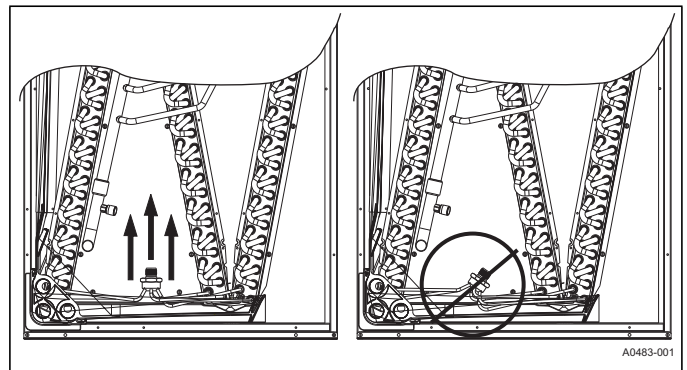

FIGURE 14: Recommended Distributor Adjustment
2. Distributor position must be adjusted to allow the preformed liquid line assembly to properly line up with the hole in the tubing access panel. Raise the distributor body approximately 2" toward the top of the coil or what would be the top of the coil if coil was in the upflow position. See Figure 14. Adjust as necessary.
5. Slide the nut removed in step 3 over the supplied liquid line. Place supplied Teflon washer from TXV kit in place on TXV, and install liquid line to the top of the thermal expansion valve. Adjust assembly so liquid line aligns with hole in access panel. See Figure 14. Hand tighten the liquid line, and apply an additional 1/4 turn to seal.